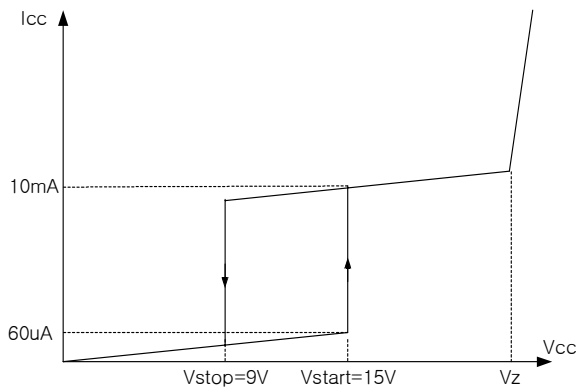

Figure 1. Relation between supply current and voltage
**1. Startup :** To guarantee stable operation of the control IC, Vcc has under voltage lockout (UVLO) with 6V hysteresis. Figure 1 shows the relation between the supply current (Icc) and the supply voltage (Vcc). Before Vcc reaches 15V, the start-up current is 60μA, which is usually provided by the DC link through start-up resistor. When Vcc reaches 15V, the control IC begins operation and the operating current increases to 10mA as shown. Once the control IC starts operation, it continues its normal operation until Vcc goes below the stop voltage of 9V.